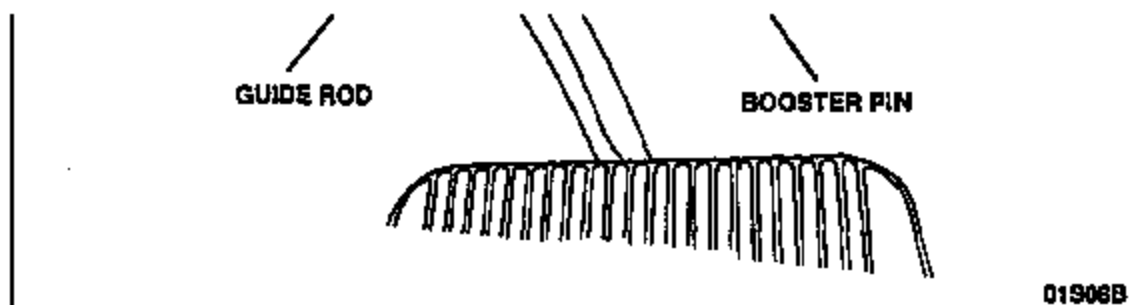

FIGURE 2
5. Use a shop cloth to remove any lubricating grease from the outer surfaces of the following brake pedal assembly components. See Figure 2.